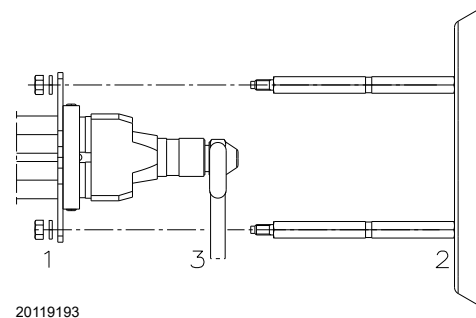

Fig. 15
- Remove the nuts 1)(Fig. 15) and the disk 2).
- Use spanner 3)(Fig. 15) to change the nozzles.